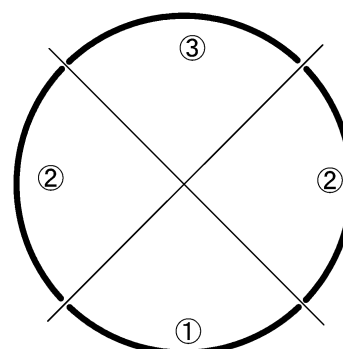
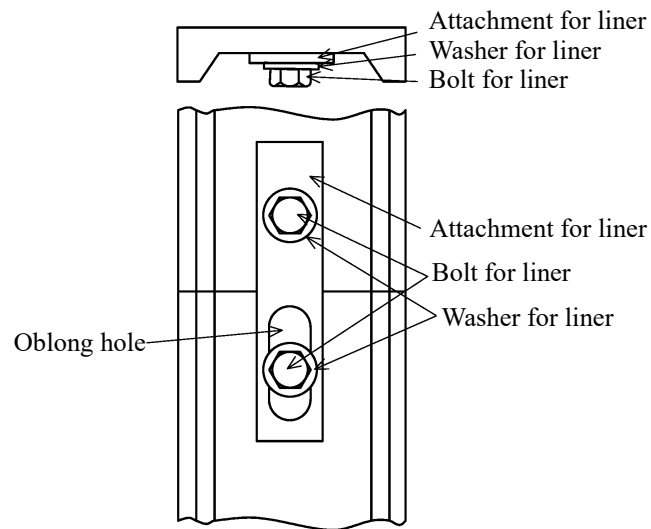

Figure-28 How to assemble the liner
Figure-29 Attachment for liner, washer for liner and bolt for liner
- 2) Assemble all segments of the liner in the sequence (① → ② → ③) shown in Figure-28, with the liner holder, the liner bolt, and the liner washer. (See Figure-29.)